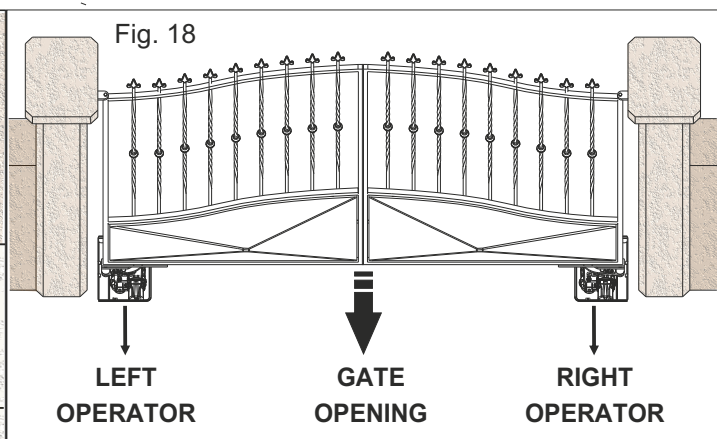

Fig. 18
**RIGHT MOUNTING - THE LEAF OPENS FROM LEFT TO RIGHT (FIG. 18)**
**LEFT MOUNTING - THE LEAF OPENS FROM RIGHT TO LEFT (FIG. 18)**